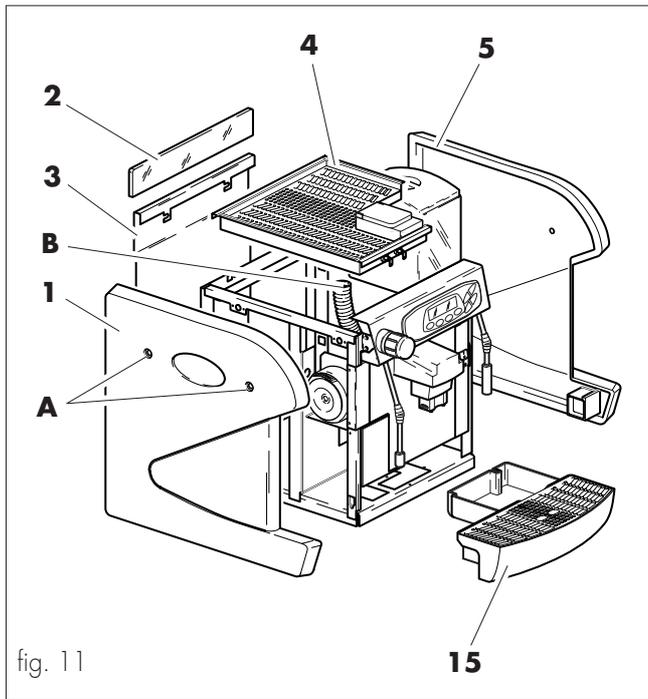

fig. 11
The side panels (ref. 1 and 5, fig. 11) and the back panel (ref. 3, fig. 11) can be dismantled for servicing or for customization that may suit room furniture or wall painting.
- Pull out the drip tray (ref. 15, fig. 11).
- Manually rotate the studs (ref. A, fig. 11) by 1/4 of a turn with a 4 mm hexagonal spanner and slide side panels (ref. 1 and 5, fig. 11) upwards.
- Slide glass out (ref. 2, fig. 11).
- Dismantle the cup heating plate (ref. 4, fig. 11) by disconnecting it from the electronic board, from the earth cable and from the drain tube (ref. B, fig. 11).
- Unscrew the back panel retaining nuts (ref. 3, fig. 11) and dismantle it.
- Assemble the back panel (ref. 3, fig. 11) and secure it with the relative nuts.
- Assemble the cup heating plate (ref. **4**, fig. 11) by inserting the electrical connector into the electronic board properly, the fitting into the drain tube (ref. **B**, fig. 11), and by connecting the earth cable.
- Manually rotate the studs (ref. **A**, fig. 11) so as to place the milling horizontally.
- Assemble one of the side panels (or ref. **1**, fig. 11 or ref. **5**, fig. 11).
- Position the glass (ref. **2**, fig. 11) in the slot of the lateral panel already assembled.
- Insert the drip tray into place (ref. **15**, fig. 11).